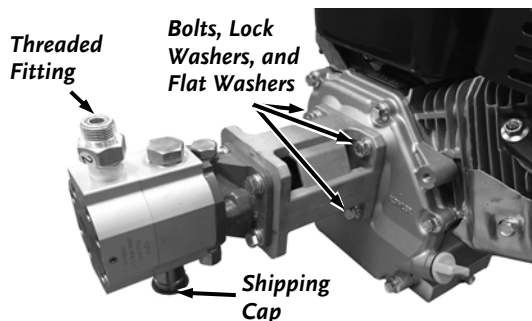

Figure 14
**Note:** If the Threaded Fitting on the Pump is already on top as shown in Figure 14, skip step 7 and continue to step 8.
7. Remove the Bolt installed in Step 5. Rotate the Pump Assembly so that the Threaded Fitting is on the top of the Pump (Figure 14).